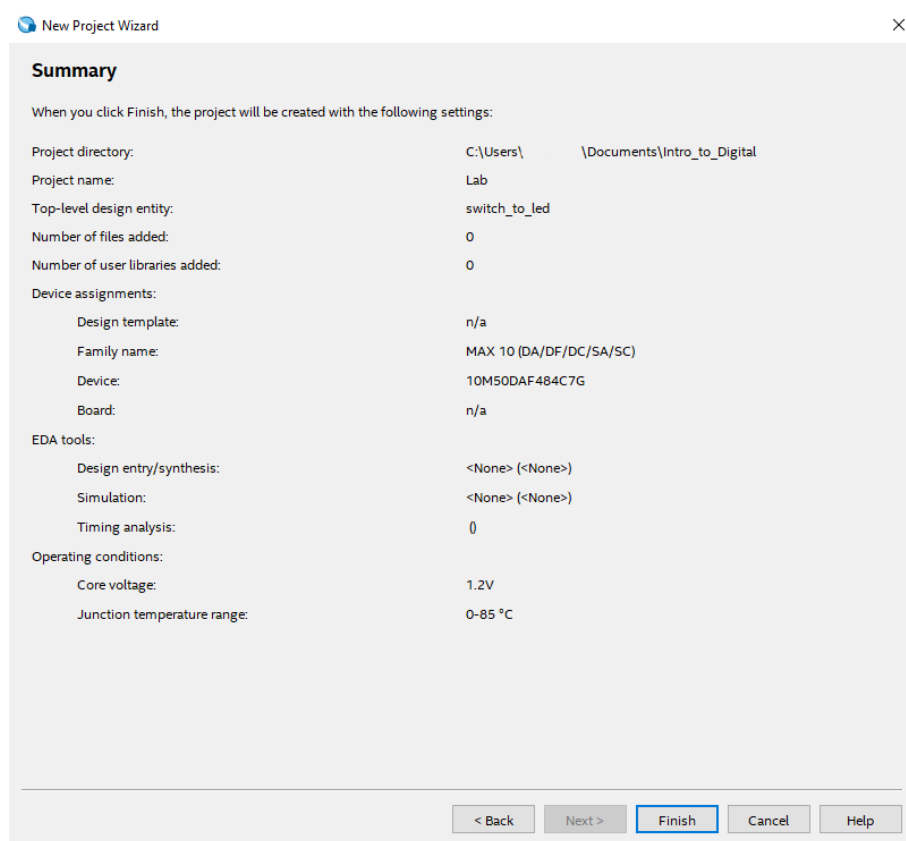

Figure 6: Summary page generated by the New Project Wizard
- ☐ **Pane 7: Summary.** Pane 7 should look similar to the image seen in Figure 6 on the following page.